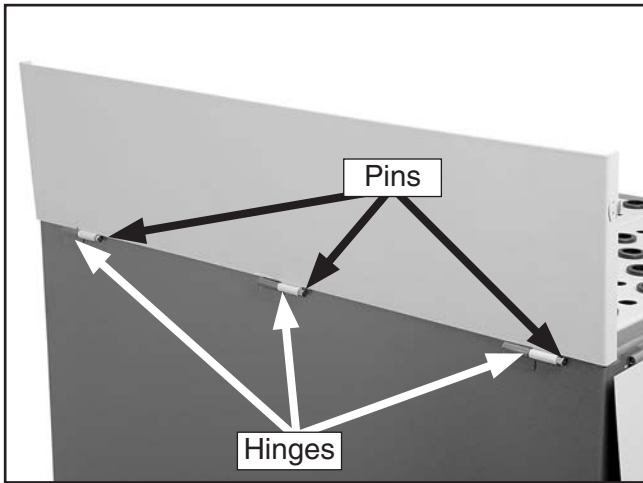

Figure 8. Center panel installed.
7. Align center panel and rear sanding table hinges, then secure with three pins, as shown in **Figure 8**.